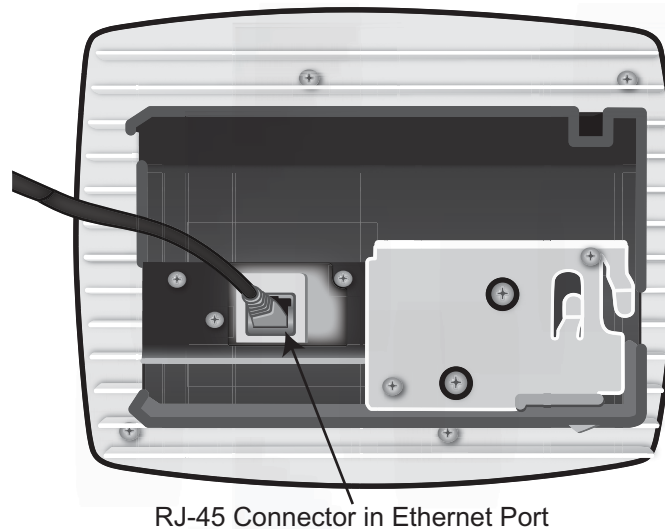

Figure 15 Route and Terminate the Cable
- Step 3** Insert the RJ-45 connector into the Ethernet port as shown in Figure 15: